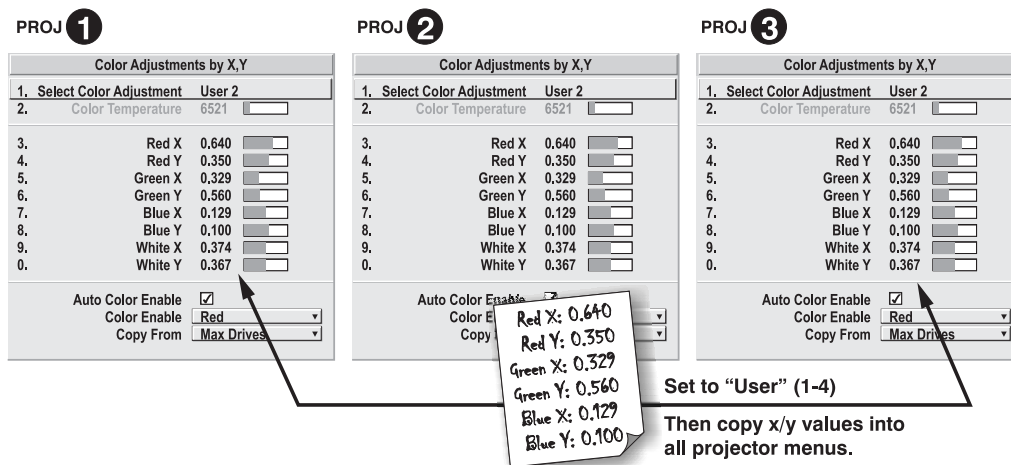

Figure 3.26. Copy X/Y Values into All Projectors
5. In each projector, select a “User” color adjustment (1-4) to enable *Color Adjustments by X,Y* changes. Then enter your recorded x/y values into each menu (Figure 3.26).